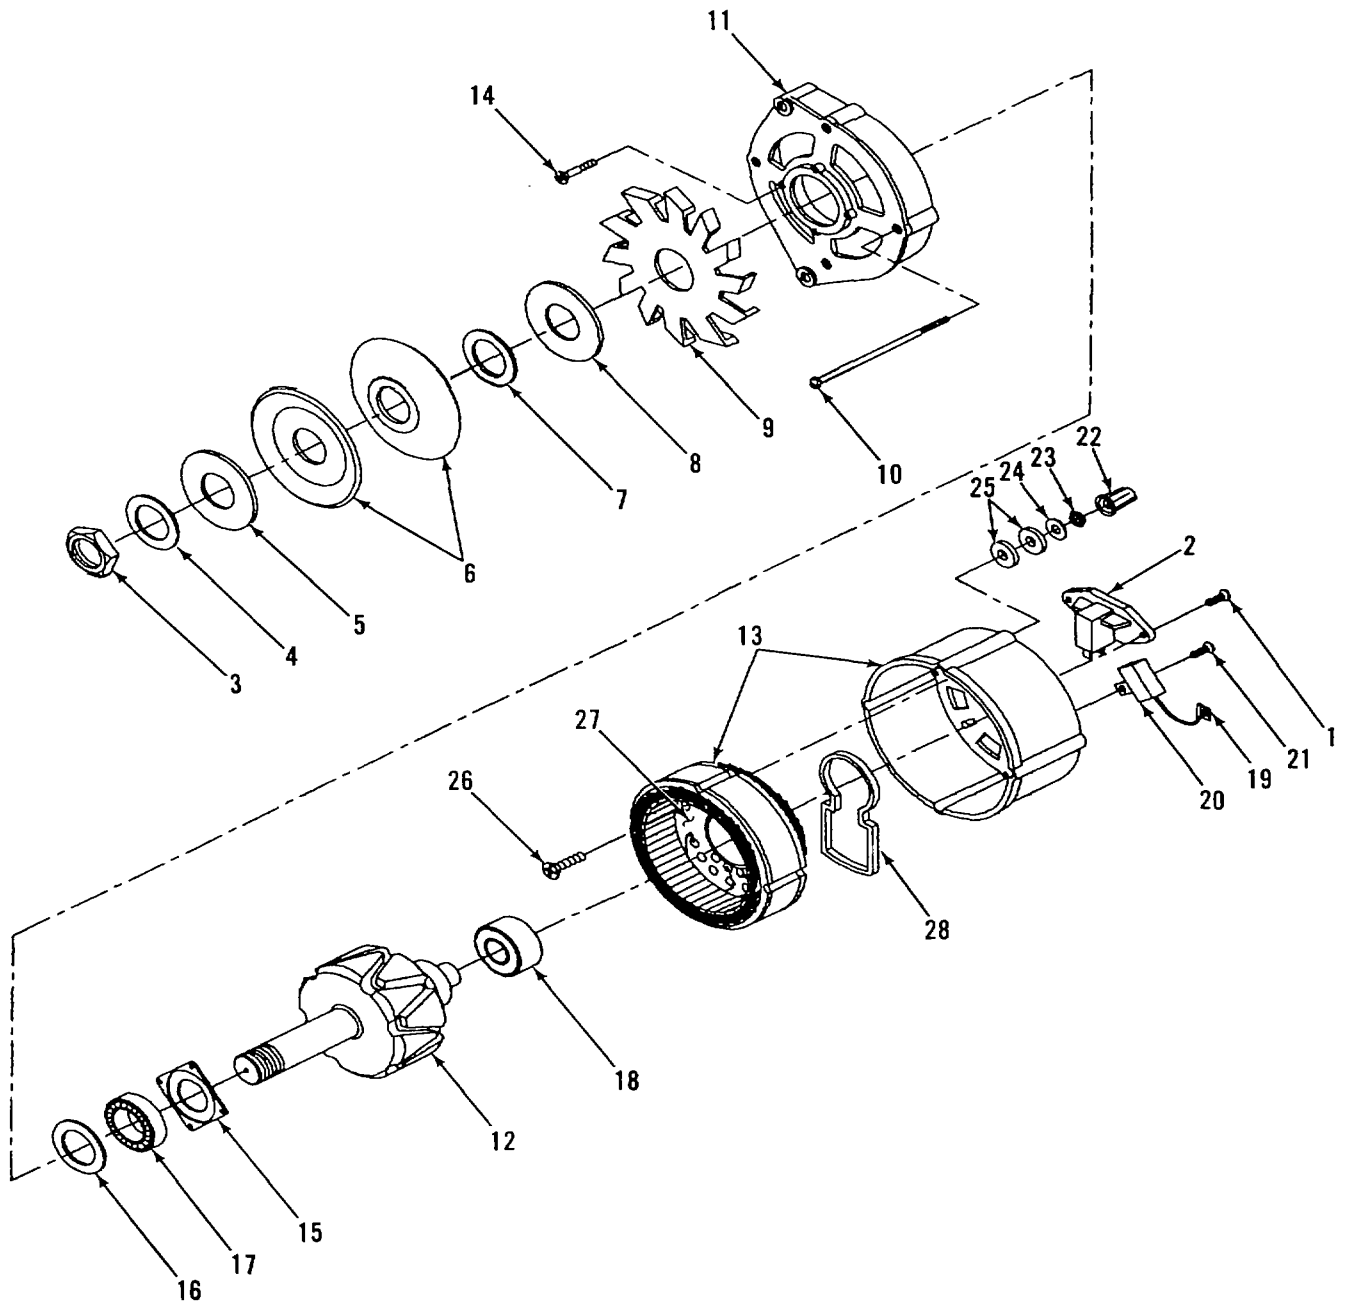

Figure 3-17. Alternator Parts Breakdown
a. **DISASSEMBLE.** (Figure 3-17)
- (1) Remove screws (1) with captive washers and voltage regulator (2).
- (2) Remove nut (3), flat washer (4), spacer (5), pulley halves (6), flat washer (7), spacer (8), and fan (9).
- (1) Solder three wire leads of stator assembly (13, Figure 3-17) to diode assembly (27).
- (2) Install seal (28) on diode assembly (27).
- (3) Install diode assembly (27) onto stator assembly (13) with screws (26) with captive washers.
- (4) Install isolators (25), flat washers (24), and nuts (23) on the B+ terminal and W terminal on housing of stator assembly (13).
- (5) Install plastic cap (22) on W terminal of housing of stator assembly (13).
- (6) Install suppression capacitor (20) on housing of stator assembly (13) with screws (21). Plug in wire connector.
- (7) Install drive end shield (11) on shaft of rotor assembly (12). Then install screws (14) that secure drive end shield (11) to cover plate (15).
- (8) Insert rotor assembly (12) with drive end shield (11) into housing of stator assembly (13). Align scribe marks and secure with thru-screws (10).
- (9) Install fan (9), spacer (8), flat washer (7), pulley halves (6), spacer (5), flat washer (4), and nut (3) on shaft of rotor assembly (12).
- (10) Install voltage regulator (2) with screws (1) with captive washers.